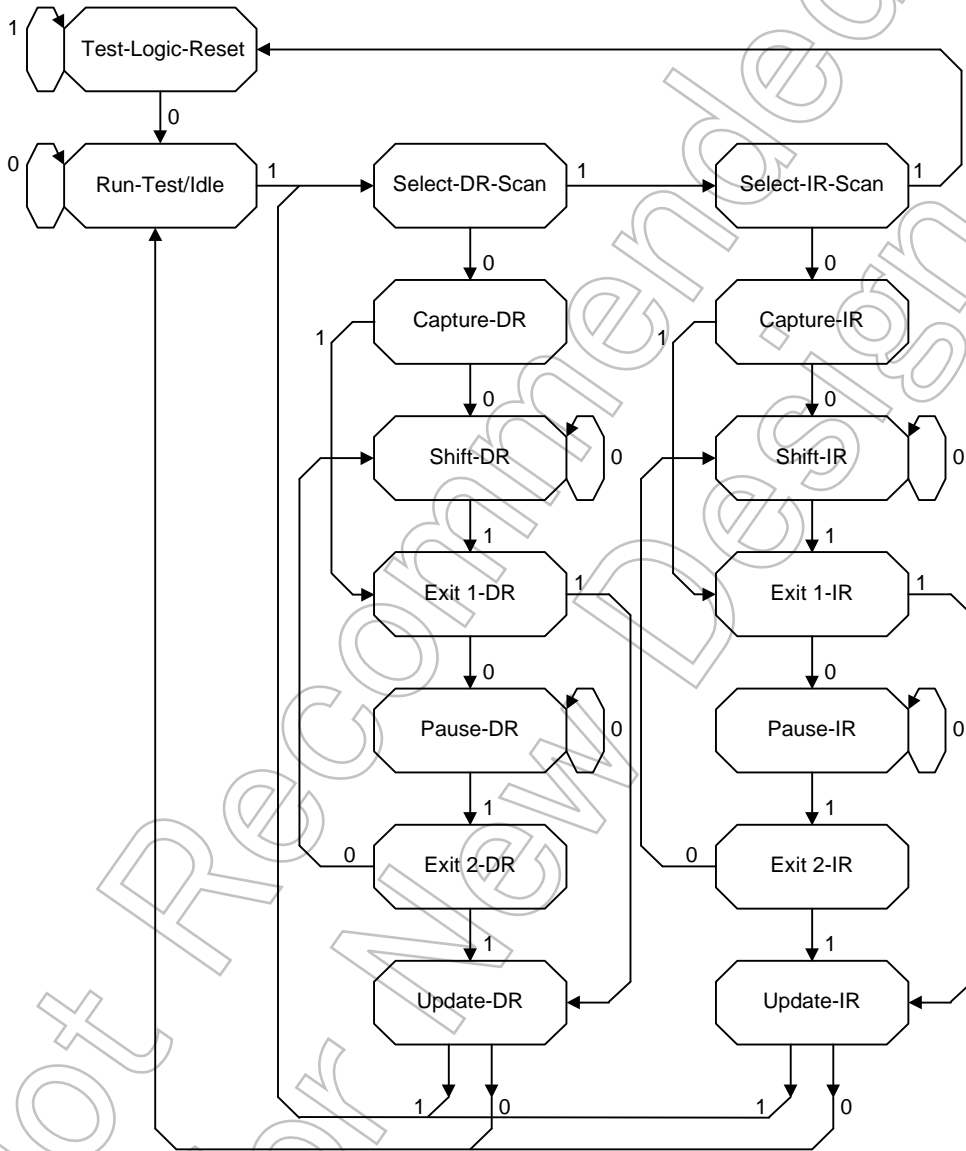

Fig. 20-8 State Transition Diagram of the TAP Controller
Fig. 20-8 shows the state transitions of the TAP controller. The state of the TAP controller changes depending on which value TMS will select on the rising edge of TCK, 0 or 1. In this figure, the arrow shows a state transition and the value that TMS selects to execute each state transition is shown alongside of the arrow.
The TAP controller operates in each state described below. In Fig. 20-8, a column to the left is the data column and a column to the right is the instruction column. The data column represents the data register (DR), and the instruction column represents the instruction register (IR).